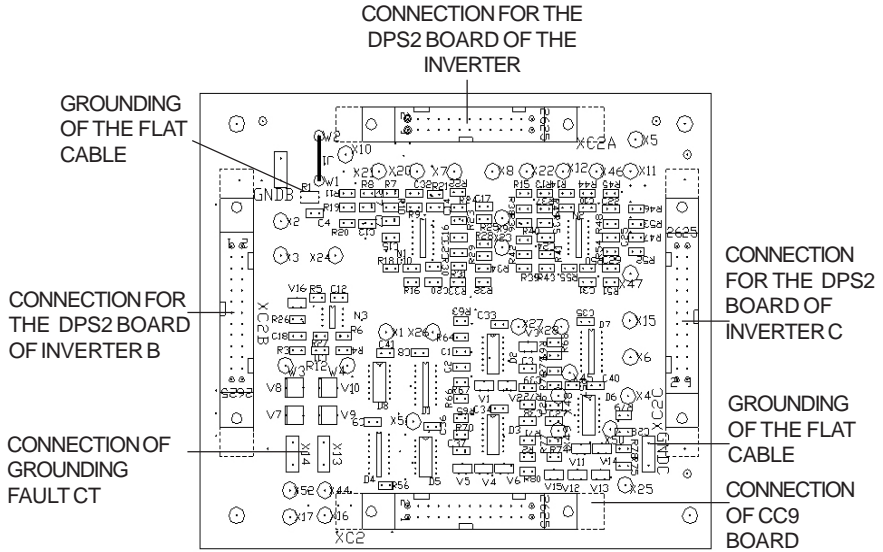

Figure 12 - Terminals on PIB1 board
- ☑ The two terminals (Faston type) of the CT must be connected to the PIB1 board (series 380-480V) at X13 and X14 (Fig. 12)